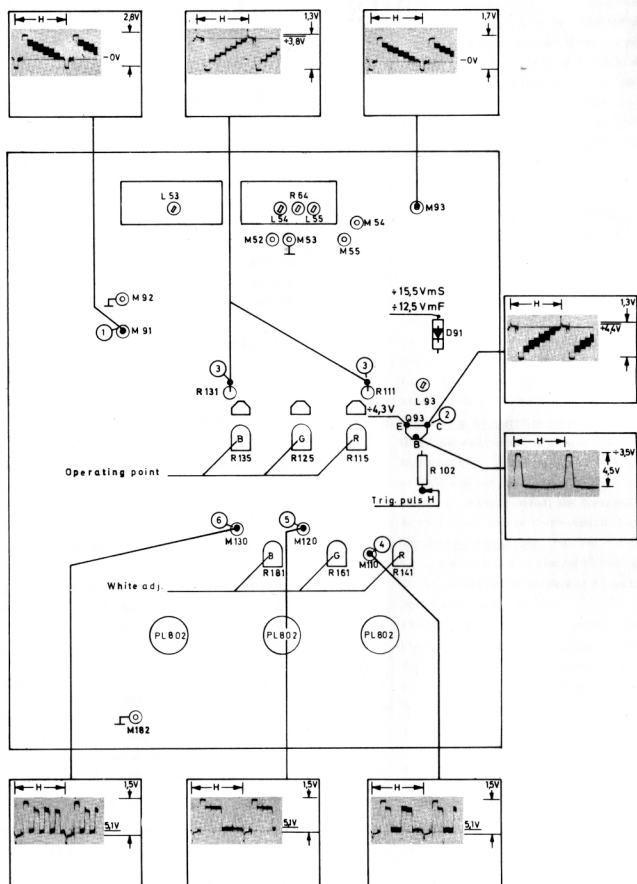

Fig. 11. Signal board (B), alignment- and test points with oscillogrammes for colour signals using a colour bar generator.
- a) Set the oscilloscope for 100 μ s horizontal sweep and connect the triggering input to the terminal of R 102 which is marked "Triggpuls H" (fig. 11). Set the scope for DC operation with a vertical sensitivity from the test probe to 1 V per division, and connect the probe to M93.